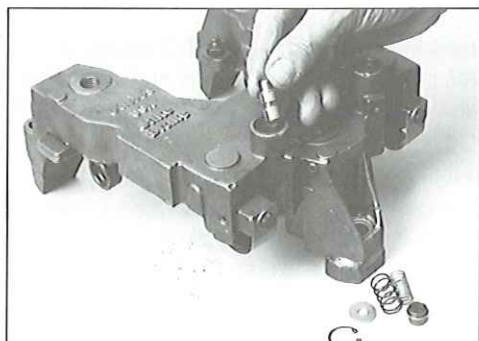

FIG. 46
3. Slowly remove cover until spring pressure ceases, then remove the two control valve springs and collar (see Fig. 46).